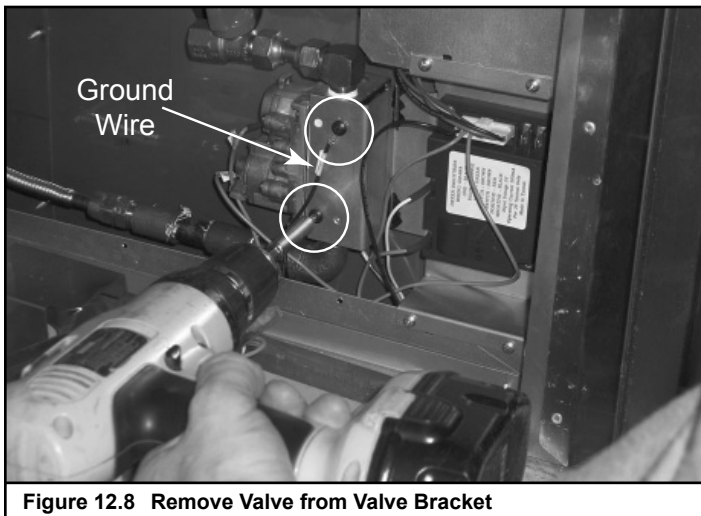

Figure 12.8 Remove Valve from Valve Bracket
- Reverse these steps to replace the gas valve. Make sure the ground wire is reattached as shown in Figure 12.8.